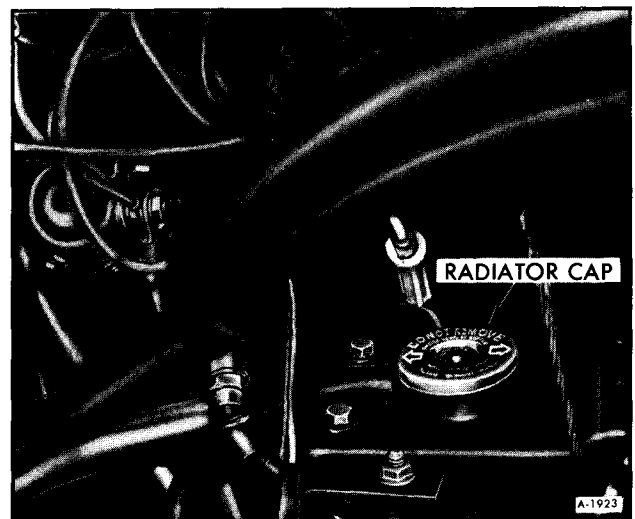

Figure 6—Radiator Cap
5. Remove four (4) nuts attaching fan clutch to water pump hub. See Figure 6. Position fan and fan clutch assembly forward in the shroud. Be careful not to allow the assembly to damage the radiator core. ✓
6. Install fan and fan clutch assembly. Torque four (4) nuts to 15 ft. lbs. (See figure 6).
4. Remove the four (4) nuts attaching fan clutch to water pump hub (See figure 6).
5. With assembly in the shroud area and removed from the hub, remove the four (4) attaching bolts that secures fan clutch.
2. Install four (4) attaching bolts that secure the fan to the fan clutch and torque to 20 ft. lbs. (See figure 6).